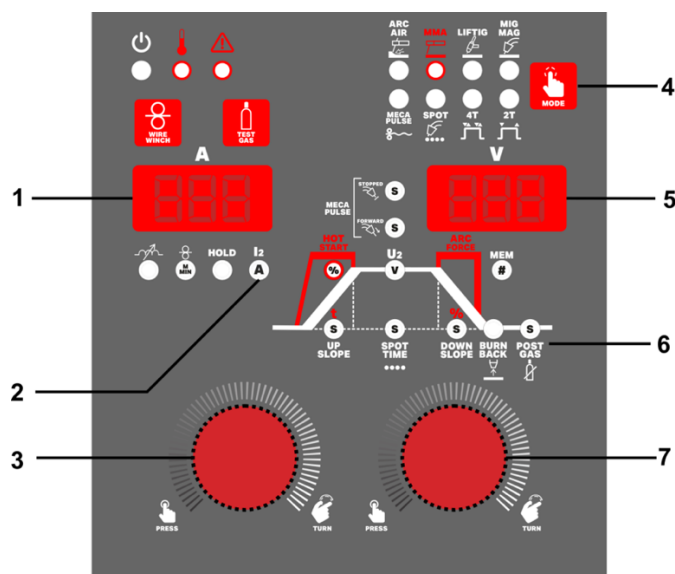

Fig.8
- Select MMA (stick electrode) welding by pressing mode key 4 (Fig. 8) until the MMA LED lights up.